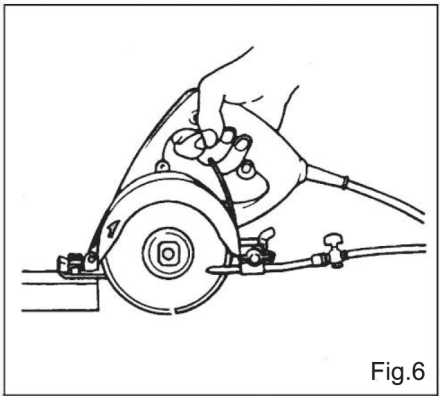

Fig.6
- Be sure to move the tool forward in a straight line and gently. Forcing and exerting excessive pressure or allowing the wheel to bend, pinch or twist in the cut can cause overheating of the motor and dangerous kickback of the tool. (Fig. 6)